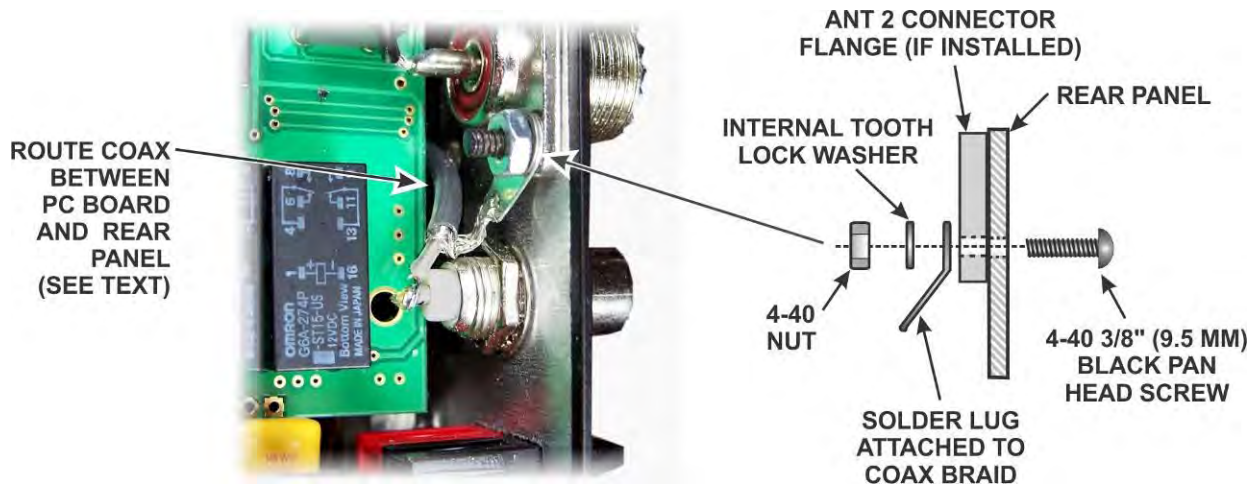

Figure 34. Installing AUX RF Connector, Part 2
□ Mount the solder lug attached to the braid as shown in Figure 34, using a 4-40 3/8" (9.5 mm) black pan head screw, #4 internal tooth lock washer and 4-40 nut. If you do not have a KAT3 installed, there will be no connector in the ANT2 hole. In that case, the solder lug is directly against the unpainted inside surface of the rear panel.